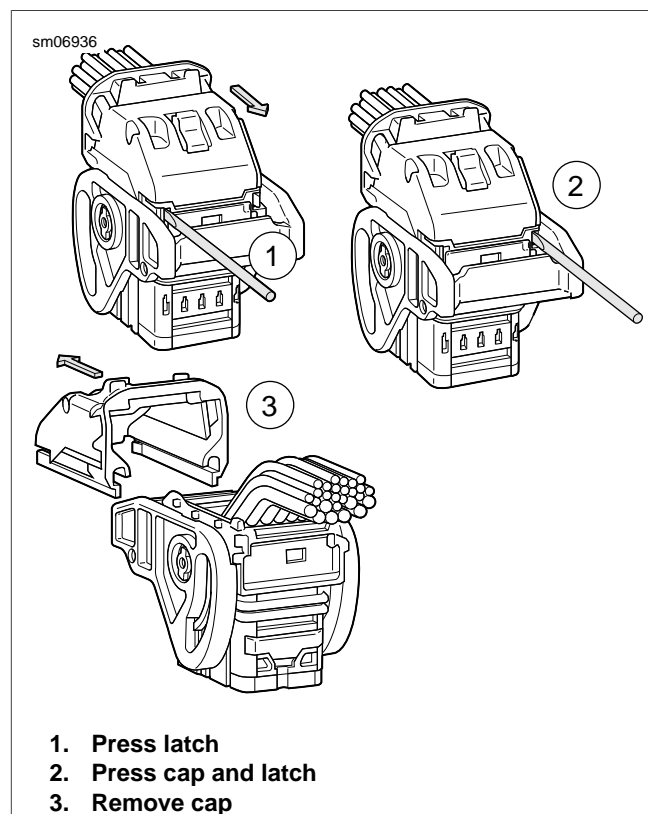
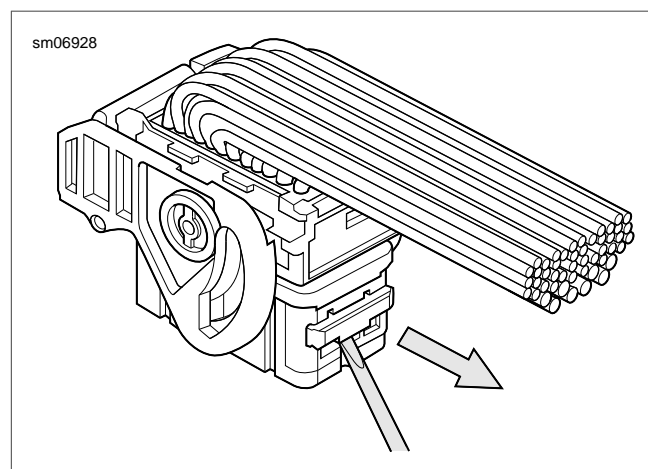

Figure A-42. Remove the Wire Lead Cap
Figure A-43. Molex CMC Sealed Connector Secondary Lock
2. See Figure A-42. Open a wire cap latch (1) with a small screwdriver.
3. Maintain pressure on the cap and open the opposite latch (2) with the screwdriver.
4. Slide the cap off (3).
5. See Figure A-43. Use the screwdriver to open the secondary lock. Pull the locking bar all the way out.